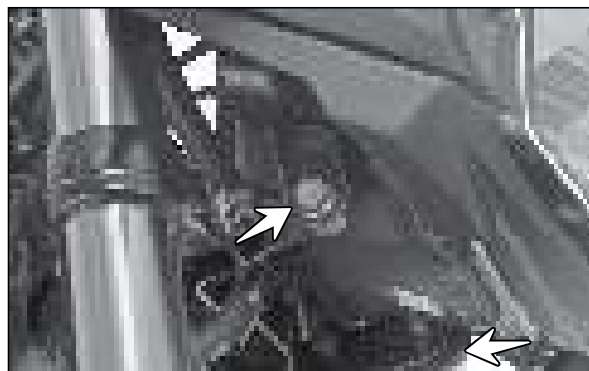

Fig. 6.68
- Remove the hexagonal flange bolt (M6x16 - 2 Nos.) from the bottom mounting of housing head lamp (both LH and RH) while holding the housing by one hand. (Fig. 6.68)